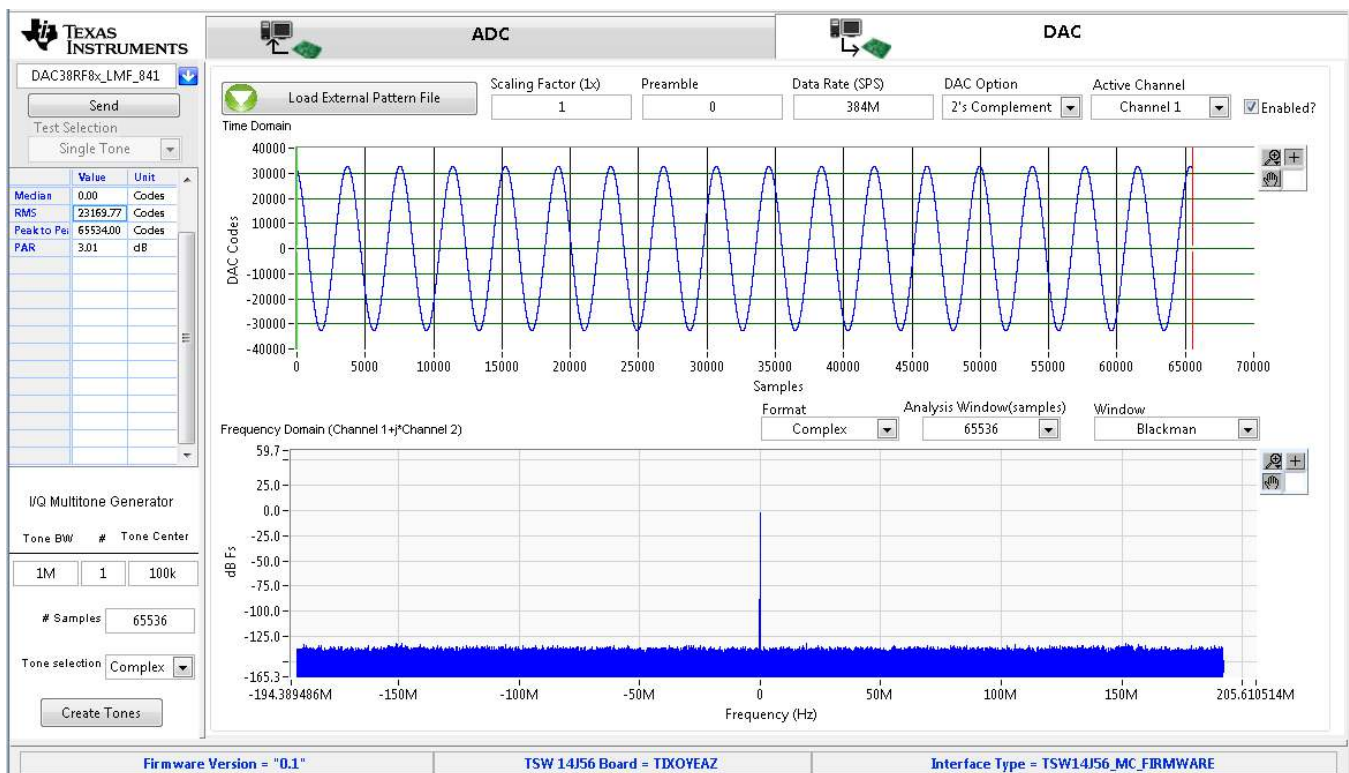

Figure 10. Complex, Single Tone Generation at 100 kHz in HSDC Pro
- Set up the *I/Q Multitone Generator* to generate a single tone at "100 k" as shown in Figure 10. Ensure that the *Tone Selection* box is set to "Complex" and then click the **Create Tones** button.